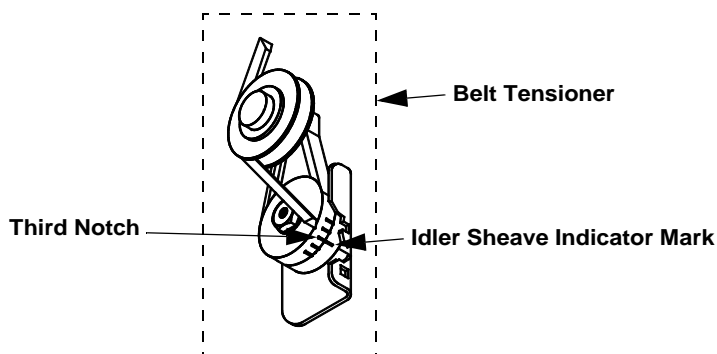

Figure 26. Idler Sheave Indicator
- Check Belt Tension. The Belt should be tensioned just tight enough to minimize Belt slippage. Over tensioning the belt will cause premature Belt and Bearing wear. With a new Belt the Idler Sheave indicator mark should line up with the third notch in the Tensioner Housing (See Figure 26).